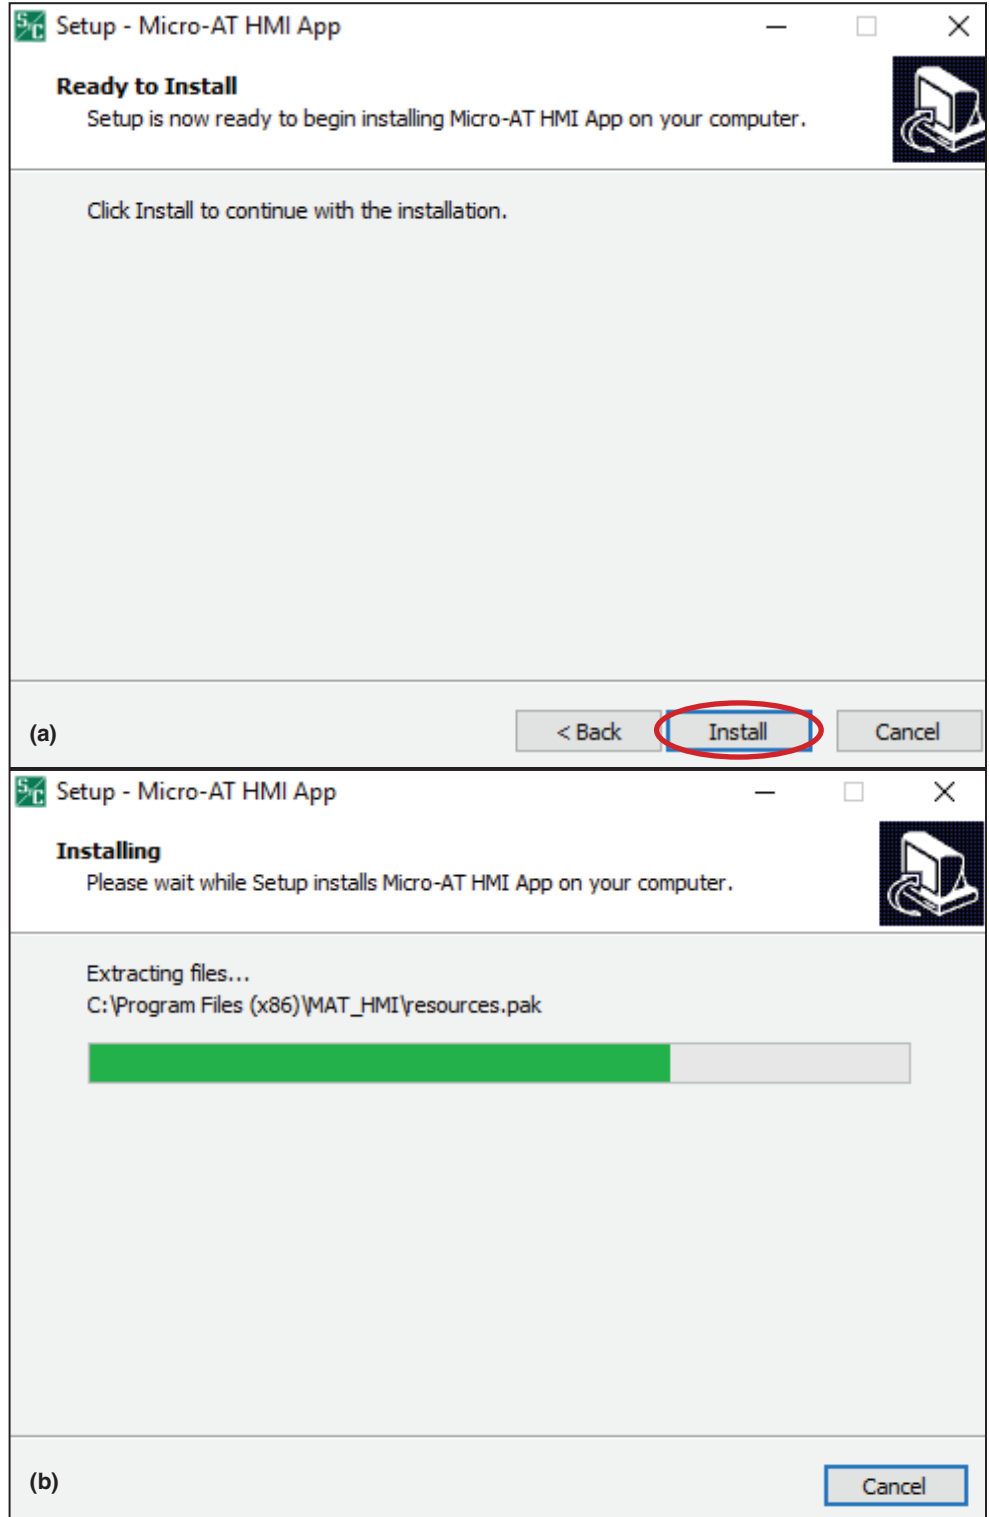

Figure 2. The screens to install the HMI application software.
STEP 5. Click the **Install** button to install the Micro-AT control HMI application software. See Figure 2(a) and (b).